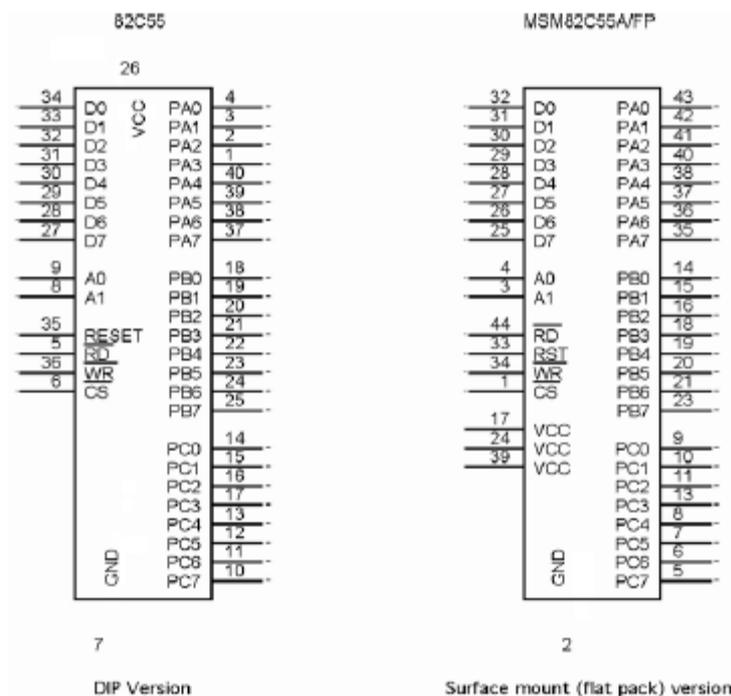

Figure 11-18:The pin-out of 82C55 PPI
- This has three I/O ports(labeled A,B and C) which can be programmed as group (Figure 11-18).